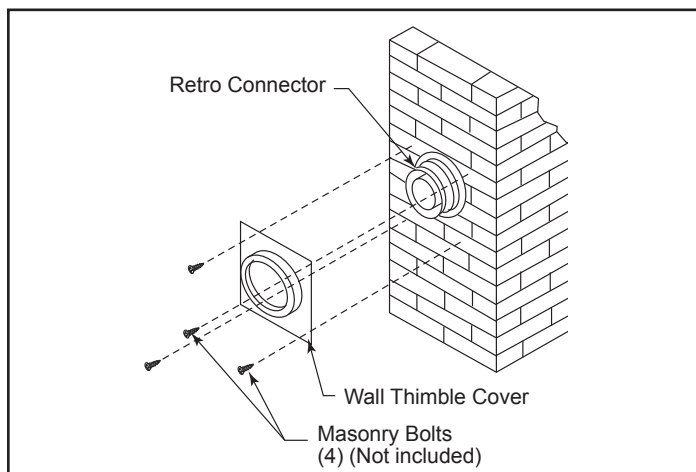
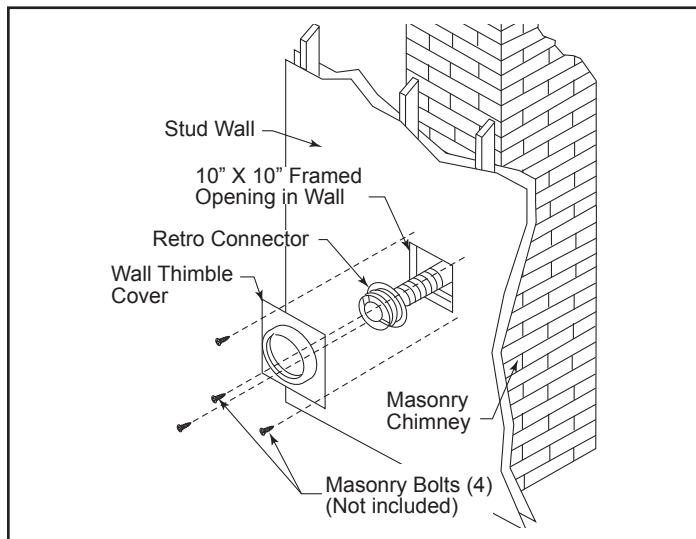

Figure 51
Figure 52
2. Once the center point of the penetration has been determined, cut a 6" (152 mm) diameter hole in the masonry. Be careful, if the hole is too large, the retro connector might not mount properly. If the hole is too small, then the appliance might starve for intake air. If there is a frame wall in front of the masonry wall, cut and frame a 10" (254 mm) clear square opening in the wall (centered around the 6" (152 mm) masonry opening). If there is sheet rock only (no studs) in front of the masonry, the 10" (254 mm) clear opening is still needed, but does not need to be framed. This allows the retro connector to mount directly on the masonry and provide clearance to the combustibles, Figure 52.
9. Slide the wall thimble cover (940) over the retro connector and secure the with masonry bolts as shown in Figure 51. If you have a framed wall in front of the masonry, use wood screws to mount the wall thimble cover to the framed wall, over the retro connector and the 10" (254 mm) square framed opening as shown in Figure 52. If needed, add a section of direct vent pipe to the retro connector in order to extend through the opening in the wall thimble cover.